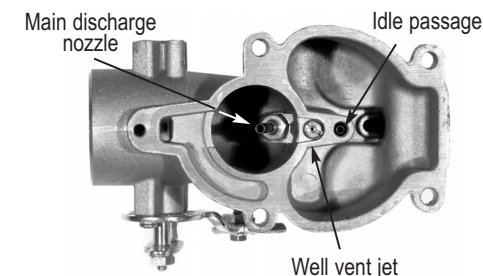

Fig. 3
10. From the top of the lower housing, remove the well vent jet, and the main discharge nozzle. The hex head of the discharge nozzle requires an 11/32" nut driver. See Fig 3.